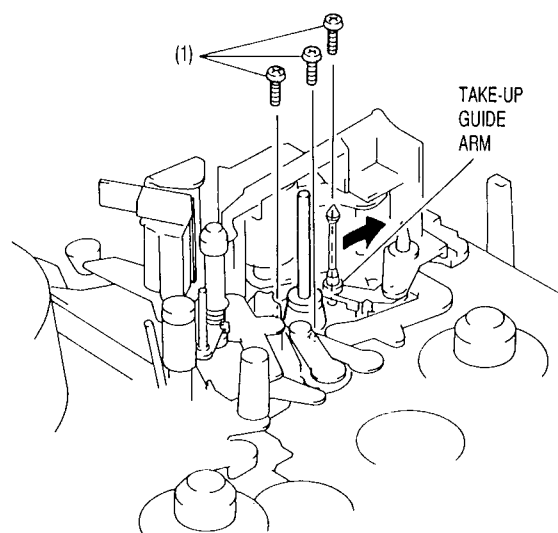
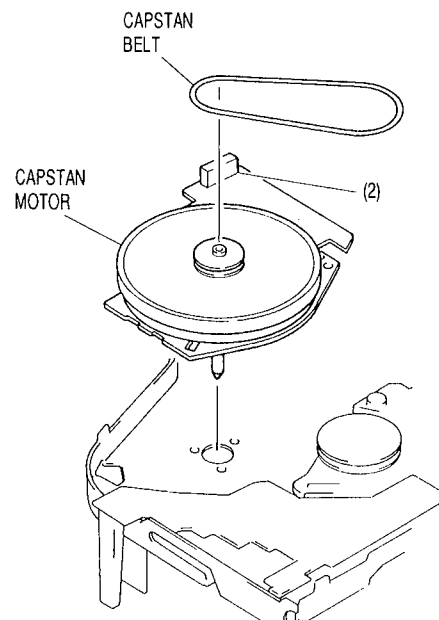

Fig. 3-11
Fig. 3-12
- 1) Move the take-up guide arm in the direction of the arrow (pressure roller side). (See Fig. 3-11)
- 2) Remove 3 screws (1).
- 3) Disconnect the connector (2). (See Fig. 3-12)